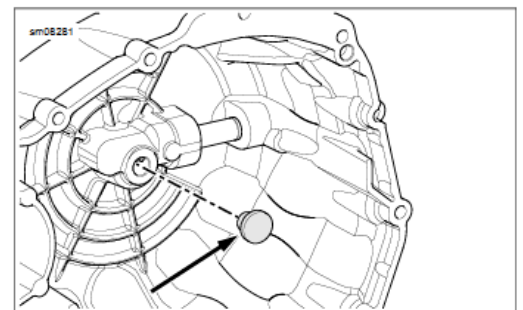

Figure 4-36. Clutch Actuator
2. See figure 4-36. Confirm installation and operation of clutch actuator.